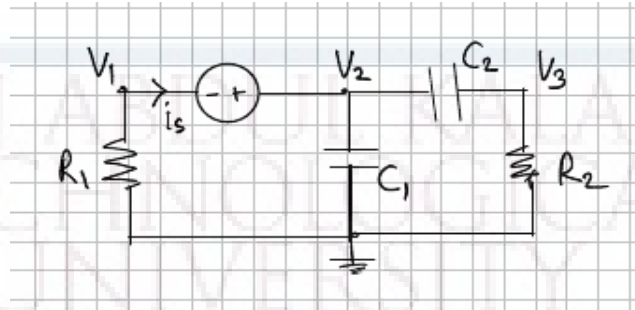

Fig. 3.
14. (a) What is 'Order' of a numerical method? Explain how order and step-size influence the accuracy and computational efficiency of numerical methods. (8)
- (b). What are the sources of error in numerical methods? (6)
15. Write the MNA equations for the circuit shown in Fig. 3 below: Apply Trapezoidal method on the resulting equations to obtain the corresponding numerical equations.